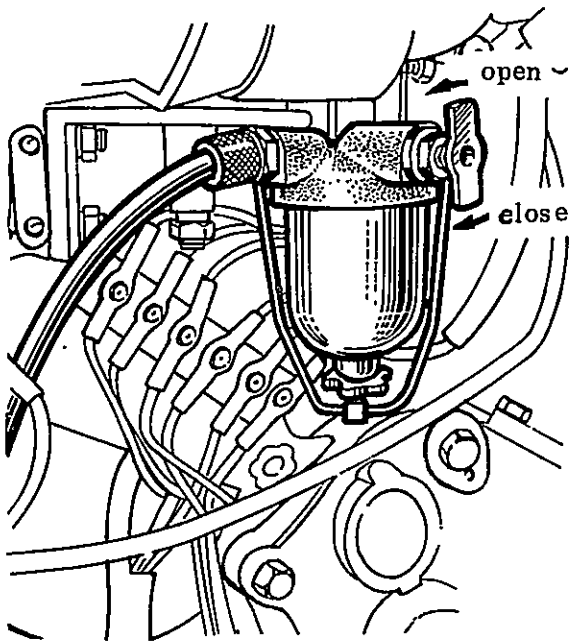

Fig. 3-6
- c. Open the cock of the sediment cup. (see Fig. 3-6)